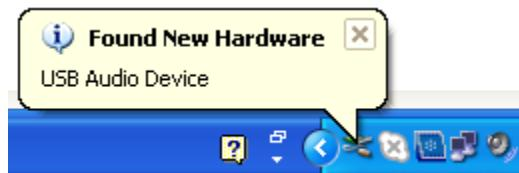

Figure G-3. Find New Hardware Callout
1. Plug USB Audio Device in to the PC. As soon as you turn on the device, it is recognized by the host and is installed automatically. You must see the callout as shown in Figure G-3 on the right bottom corner of your screen.